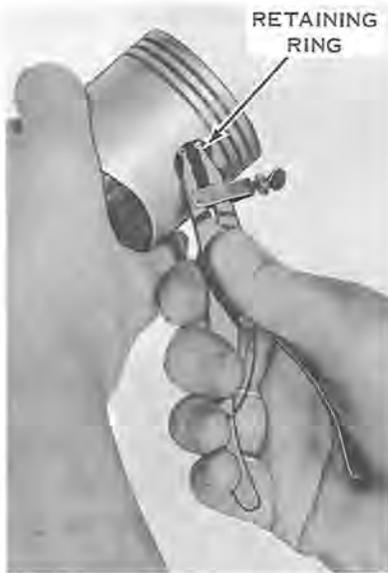

Figure 8-5
- h. If necessary to remove connecting rods from pistons, remove wrist pin retaining rings, using Truarc No. 1 pliers (Service Tool #303857) (see Figure 8-5). Drive wrist pin through to free piston from connecting rod.